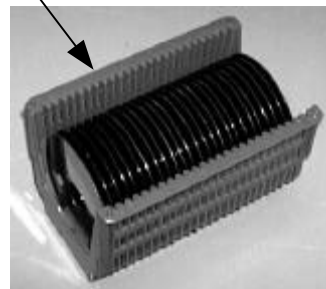

Figure 3-11. Correct placement of cassette in rotor.
2. Open the door, place the cassette of wafers correctly into the dryer. See Figure 3-11.